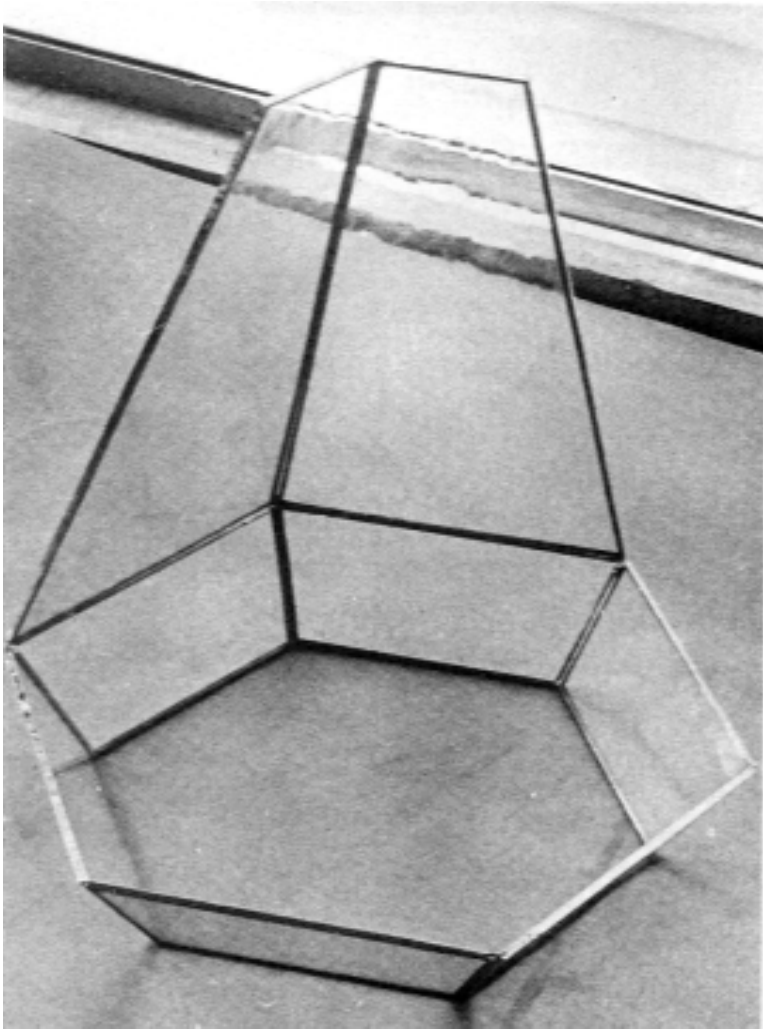

Fig 11.4
6. Tack two of the A panels together at the correct angle and sit them on top two of the assembled B panels. It is vital that all edges and corners line up exactly. Do not tack these on at the corners because you may unsolder the previous joint. Instead tack in about 15 to 20mm from each corner. The first two top panels are the most critical and difficult to place (fig 11.4). Add the remaining A panels one by one. Hold the last panel in position, check that each corner fits exactly and solder the two top corners before the bottom two.